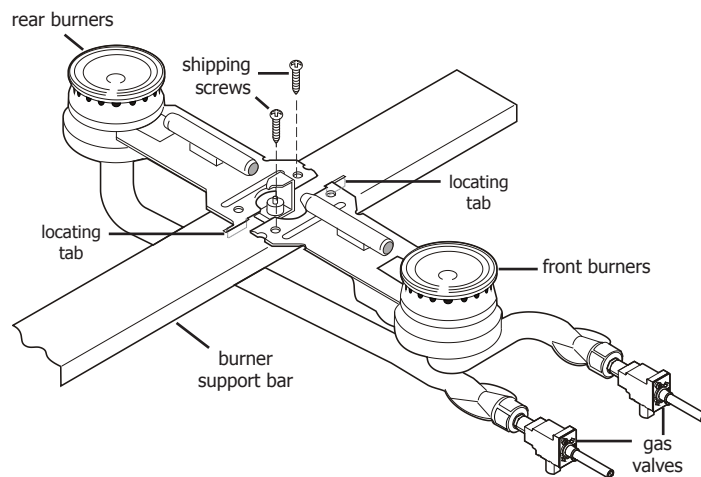

Fig. 1
1. Remove shipping screws with a Phillips Head screwdriver. See Fig. 1 for screw locations.